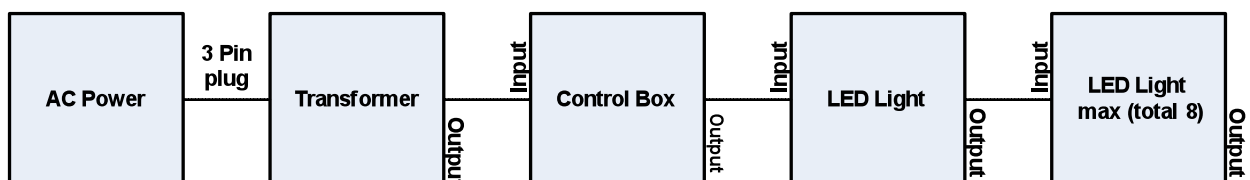

Figure 1: Typical layout of the Deployable LED Lighting System
7. Connect the output of the Transformer (Item 3) to the input of the Control Box (Refer to Figure 1).
8. Connect the Transformer (Item 3) to the 240V supply via the 3-pin (Refer to Figure 1).